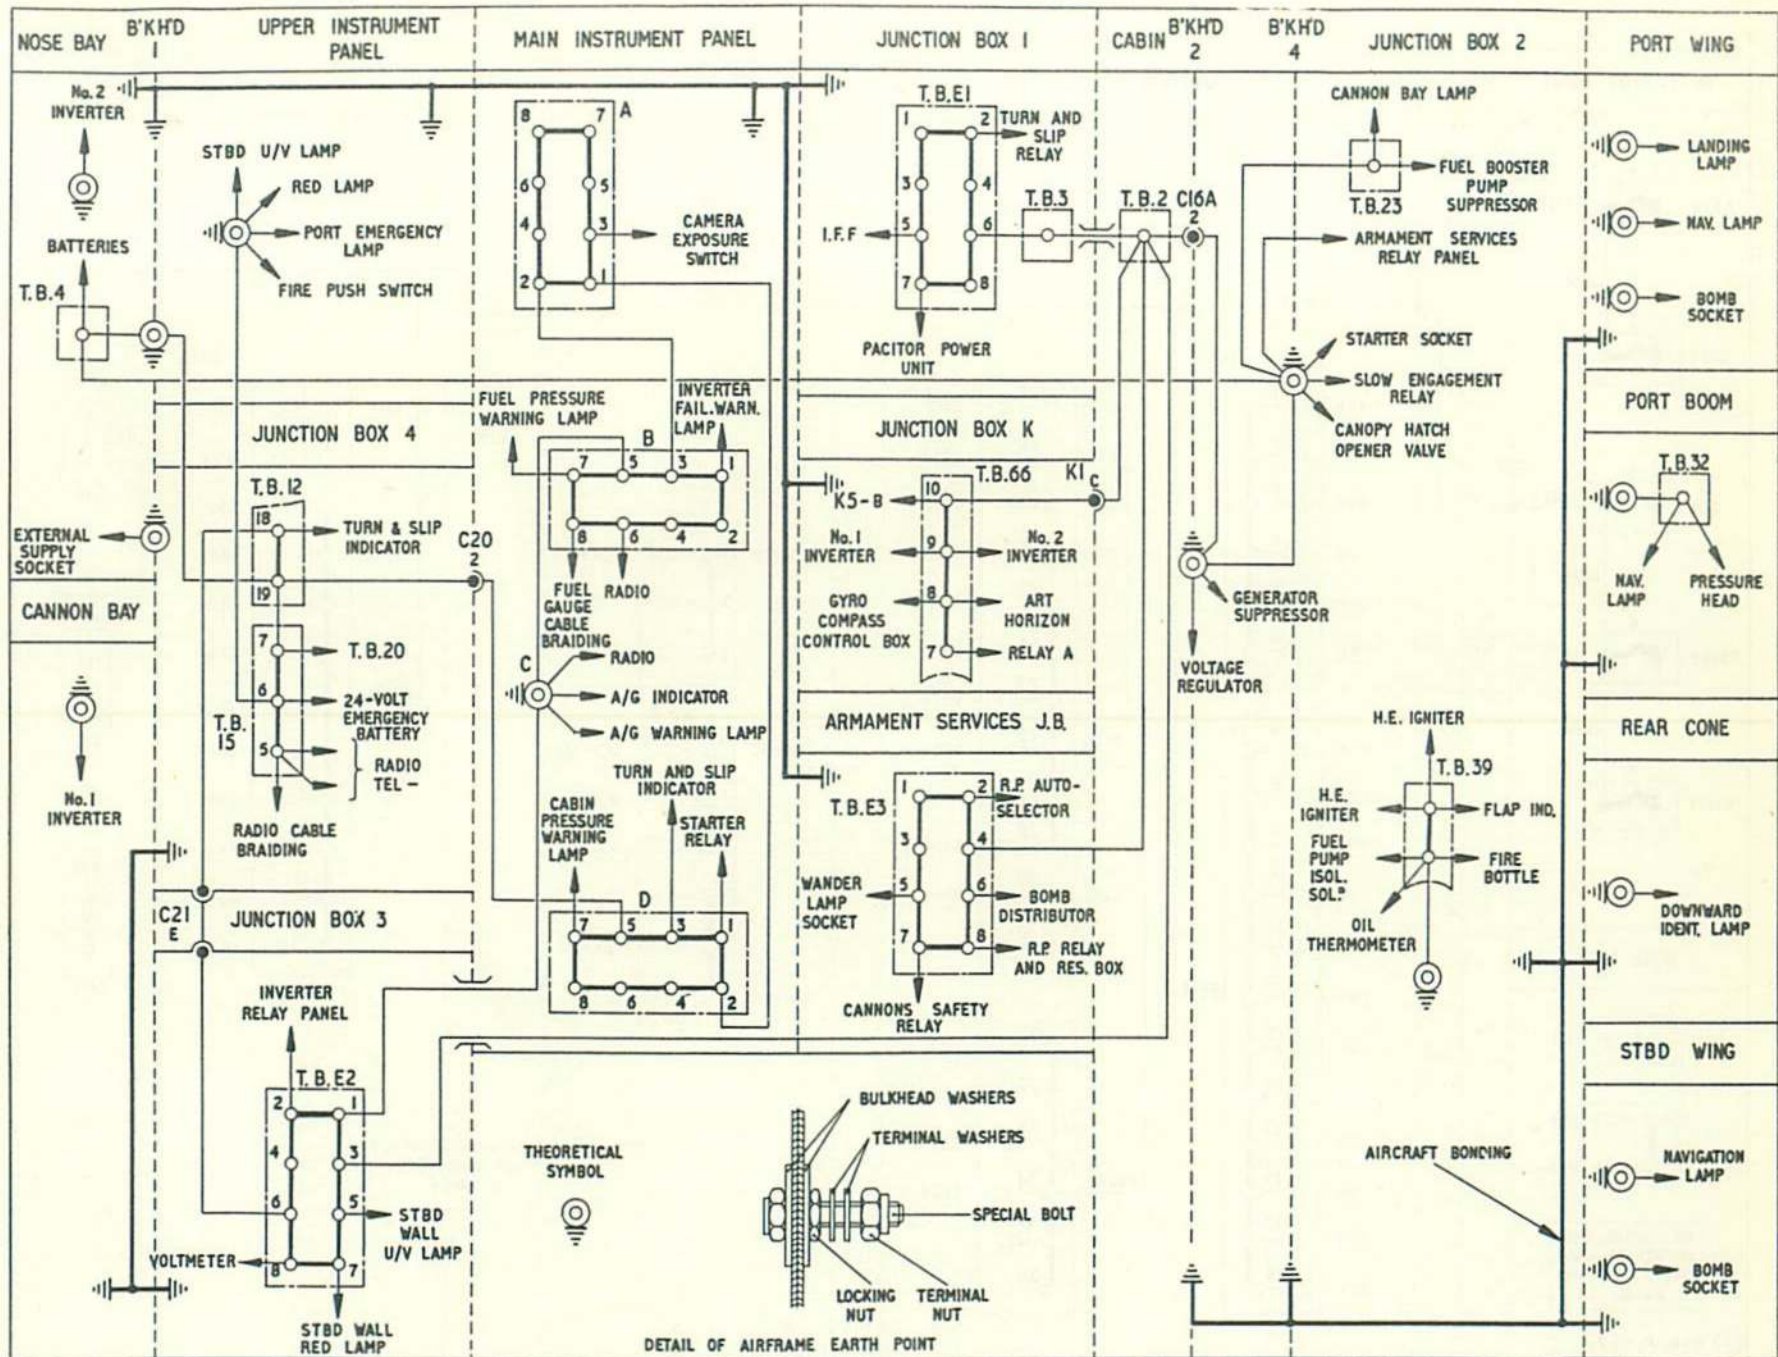

Fig. 4. Earth points
13. The negative side of the aircraft wiring is earthed, the locations of the earth points being shown in routing diagram form on fig. 4. All components in the electrical system are earthed directly to the airframe or to common earth terminal blocks, these being interconnected and eventually earthed to the airframe.